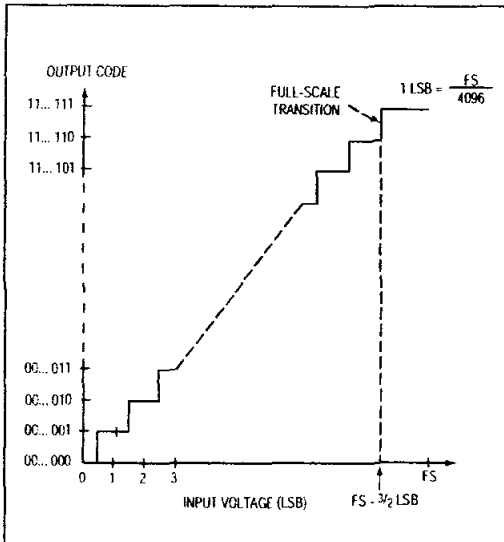

Figure 10. Unipolar Transfer Function
Output data coding for the MAX196/MAX198 is binary in unipolar mode with 1LSB = (FS / 4096) and two's-complement binary in bipolar mode with 1LSB = [(2 x FS) / 4096]. Code transitions occur halfway between successive-integer LSB values. Figures 10 and 11 show the input/output (I/O) transfer functions for unipolar and bipolar operations, respectively. For full-scale (FS) values, refer to Table 1.